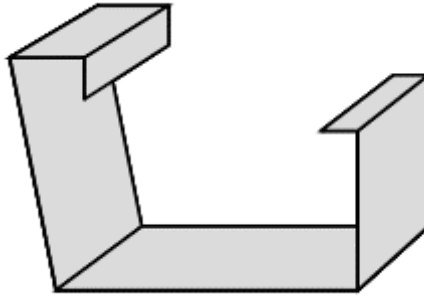

Fig. 4
- 5 Fig. 4 shows a thick sheet material bent to shape.